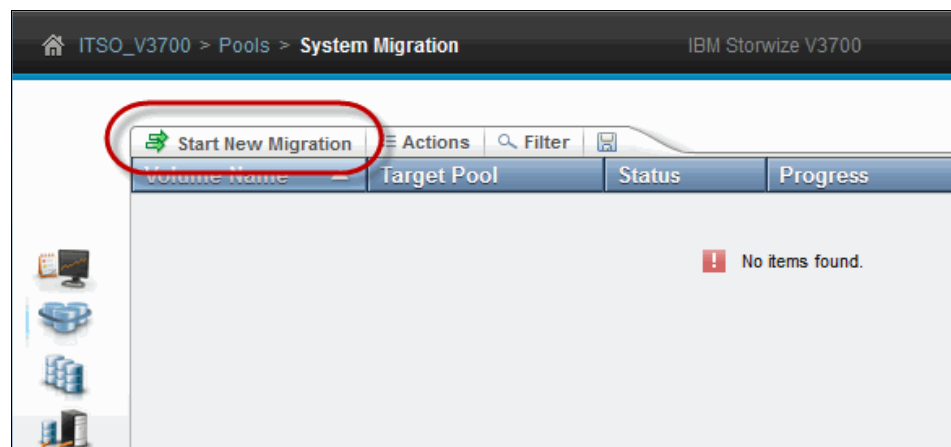

Figure 3-69 System Migration pane
1. Select **System Migration** in the Pools menu to open the System Migration pane, as shown in Figure 3-69. This pane is used to migrate data from externally attached Fibre Channel or SAS-based storage systems to the internal storage of the IBM Storwize V3700. The pane displays image mode volume information.